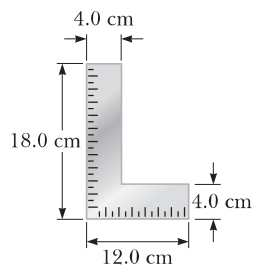

Figure P12.3
3. A carpenter's square has the shape of an L as shown in **W** Figure P12.3. Locate its center of gravity.